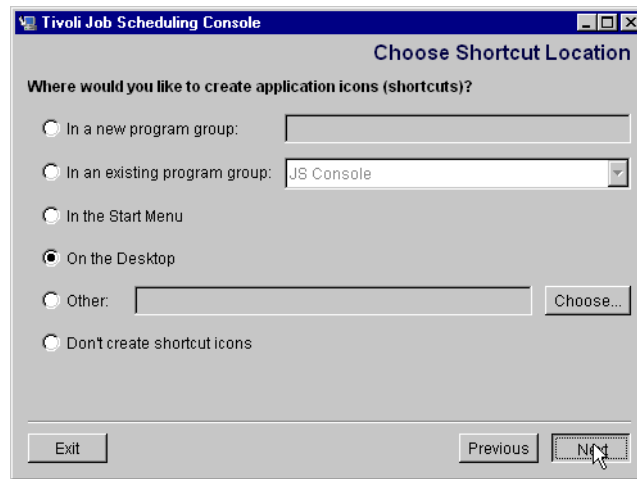

Figure 57. Shortcut location
9. In the next window, shown in Figure 57 on page 76, choose where to install the shortcut icons.